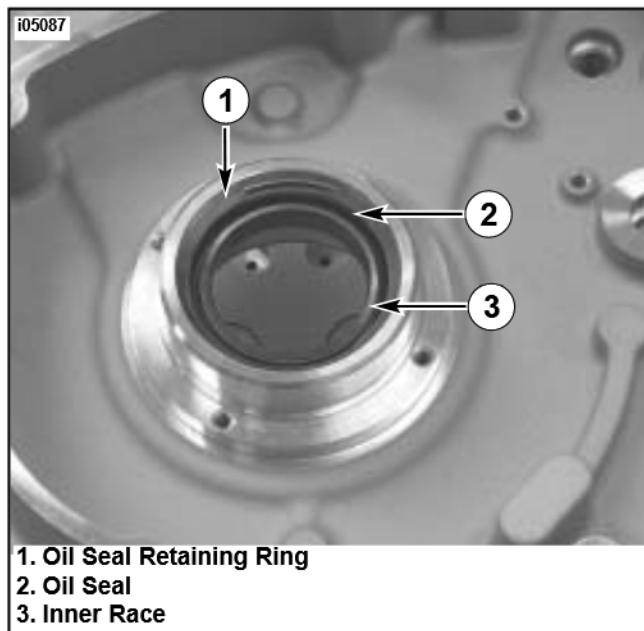

Figure 1. Install Oil Seal Retaining Ring
- See Service Parts Illustration and Figure 1. Obtain new oil seal retaining ring (2) from kit. Install retaining ring to groove in crankcase outside of oil seal.
- Refer to Figure 1 and Service Parts Illustration. When assembling crankcase, follow all instructions in Service Manual however, immediately after installing sprocket shaft oil seal, obtain new retaining ring (2) from kit and install to groove in crankcase outside of oil seal.